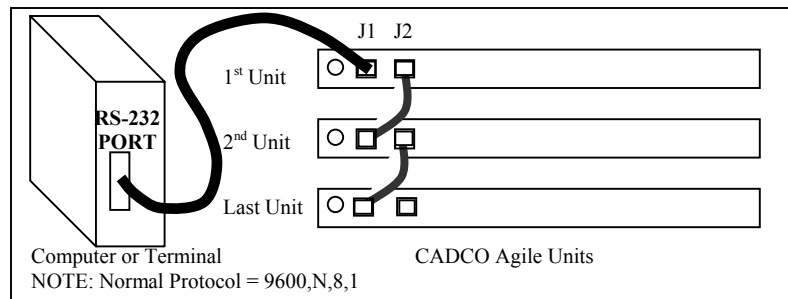

Figure 2-3
3. Using the customer-made interface cable which will connect to the interface device (terminal modem port or modem) RS-232 port, connect the first unit to port of the interface device. *See* Figure 2-3.